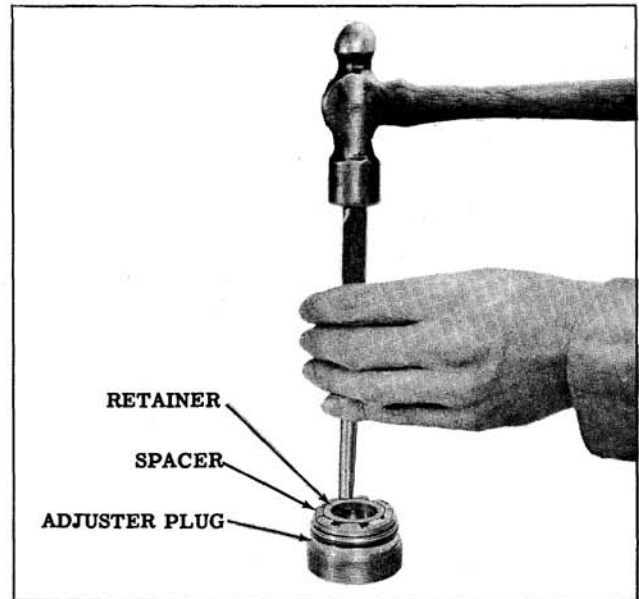

Fig. 8-52 Installing Bearing Retainer
5. Install a new bearing retainer on the adjuster plug by carefully tapping on the flat surface of the retainer. (Fig. 8-52)